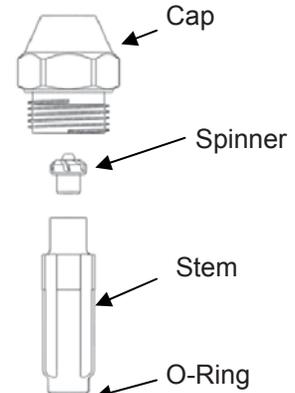

Figure 59 Disassemble Nozzle
18. The passage through the nozzle block for the nozzle has a plug at the opposite end of the nozzle which must be removed for complete cleaning of the Passage - use thread sealer during reinstallation (refer to figure 59).